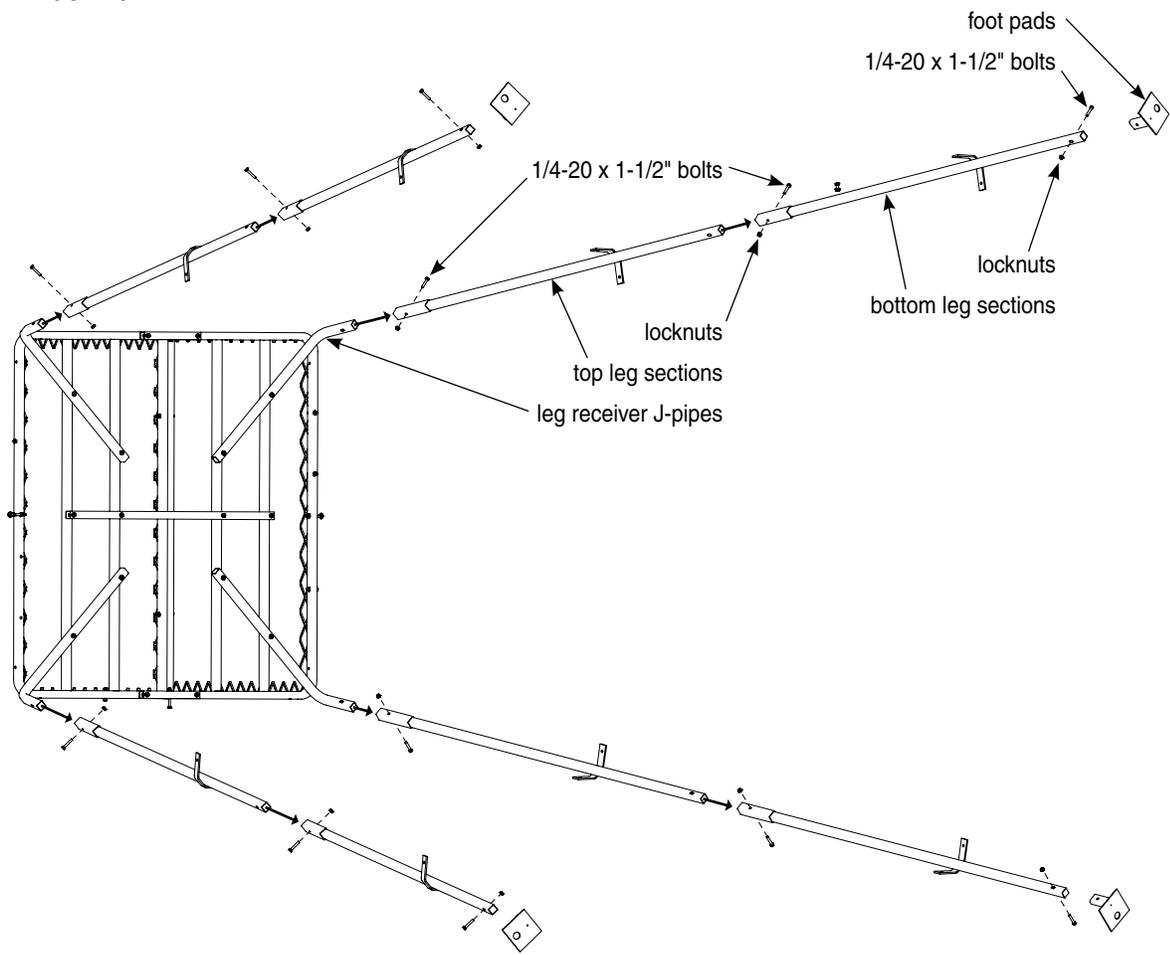

FIGURE 8
- Attach foot pads (TP113) to four of the eight leg sections (TWR20) using (4) provided 1/4-20 x 1-1/2" bolts and locknuts. **SEE FIGURE 8.** This step now makes these four legs, the bottom section legs.
NOTE: Be sure foot pads are oriented correctly in relation to the welded on bracket of leg section. Channel on foot pads should touch on three sides of the leg sections. **SEE FIGURE 8.**
- Insert each of the four remaining (top) leg sections into the bottom leg sections by inserting into pocketed end of bottom leg section. Attach each section together using (4) 1/4-20 x 1-1/2" bolt and locknut. **SEE FIGURE 8.**
NOTE: Be sure the welded on brackets on each leg section are oriented correctly in relation to each other. **SEE FIGURE 8.**
- With assembled platform section laying on its side, insert all four assembled leg sections onto each leg receiver J-pipe using (4) provided 1/4-20 x 1-1/2" bolts and lock nuts. **SEE FIGURE 8.**
NOTE: Be sure the foot pads are oriented outward from the platform. **SEE FIGURE 8.**